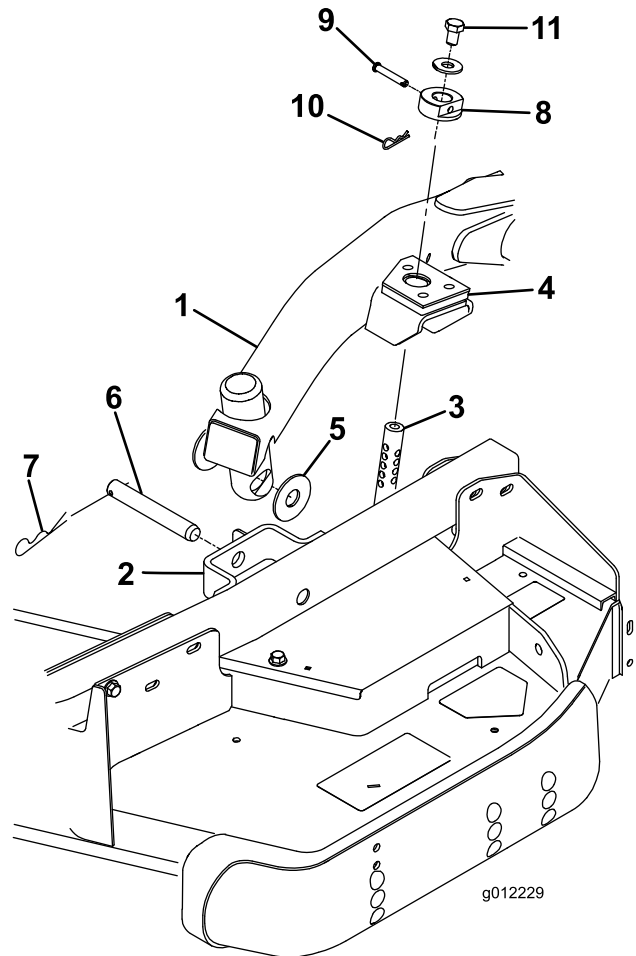

Figure 23
the holes in the castor arm bracket and the height of cut rod can be inserted into the lift arm pads (Figure 23).
5. Secure the lift arm to the castor arm with (2) thrust washers, a clevis pin and a hair pin cotter. Position the thrust washers between the lift arm and the castor arm bracket (Figure 23). Insert end of cotter pin into the slot in the castor arm tab to retain cotter pin.
pin cotters (Figure 23). Head of clevis pin to be positioned toward the front of the deck.
10. Install a 1/2 x 3/4 inch bolt and a washer to top of each height of cut rod (Figure 23).